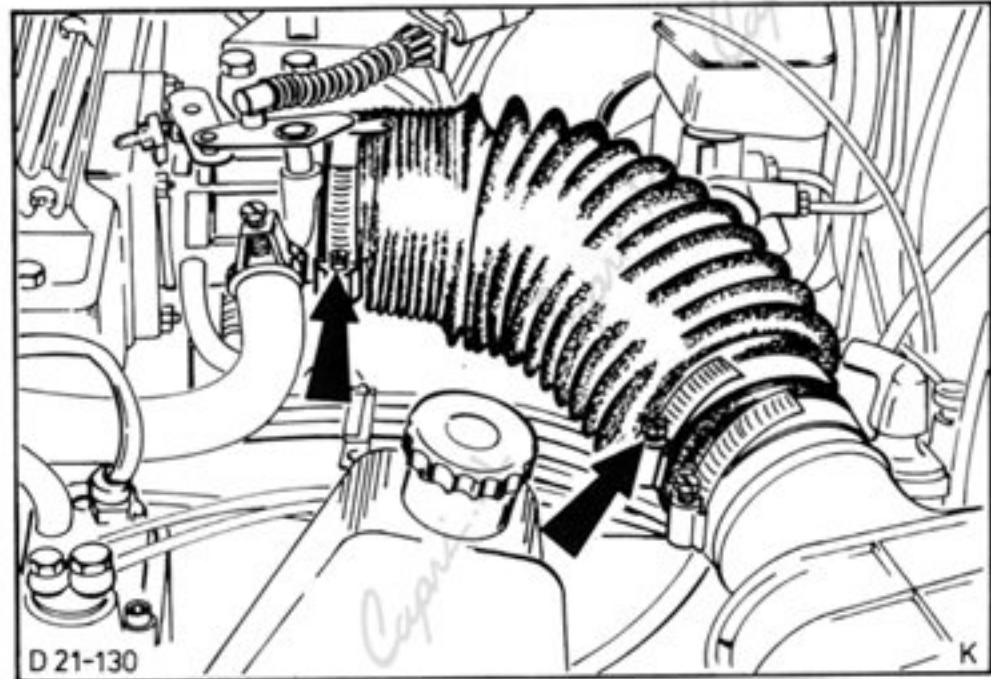

Fig.103. Connecting hose of inlet silencer in installation position.
2. Remove connecting hose from inlet silencer, Fig.103, and remove expansion tank from bracket.
6. Fix expansion tank, install connecting hose to inlet silencer (note installation position in Fig.103) and connect battery earth lead.